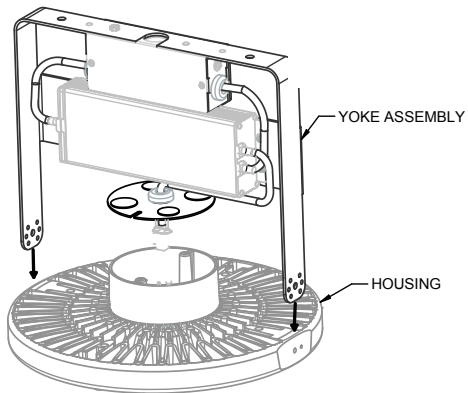

Figure 1
1. Align holes in Yoke to holes on side of Housing (2 places). (See Figure 1)